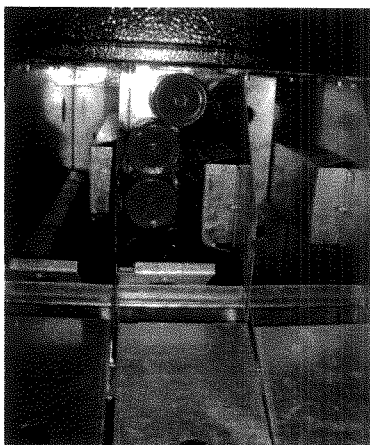

Figure 16 – Fill back section first
- c. Fill the “back” section first to full capacity (*reference figure 16*).